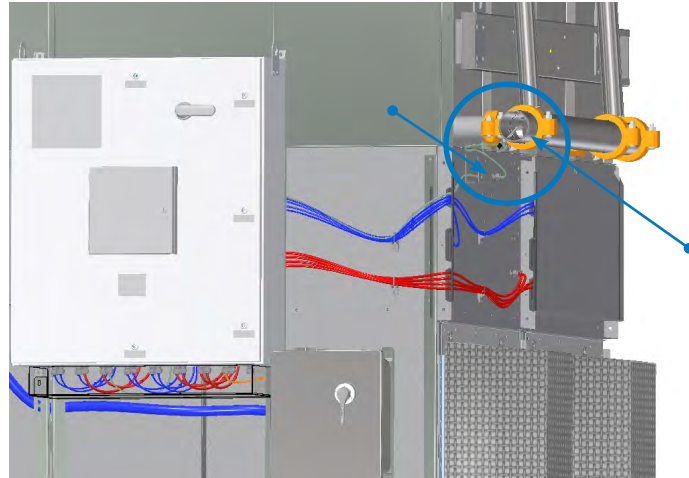

Figure 22. Manifold Connection Outlet and Leaving Process Fluid Temperature Sensor
5. Install the connection outlet with the leaving process fluid temperature sensor port pointing at 45° toward unit. Run the wire through the cord grip and brackets. Install the bracket as needed. This wire will be routed through the same path as the fan communication wire and back to the iPilot® Control System panel. See **Figures 22** and **23**.